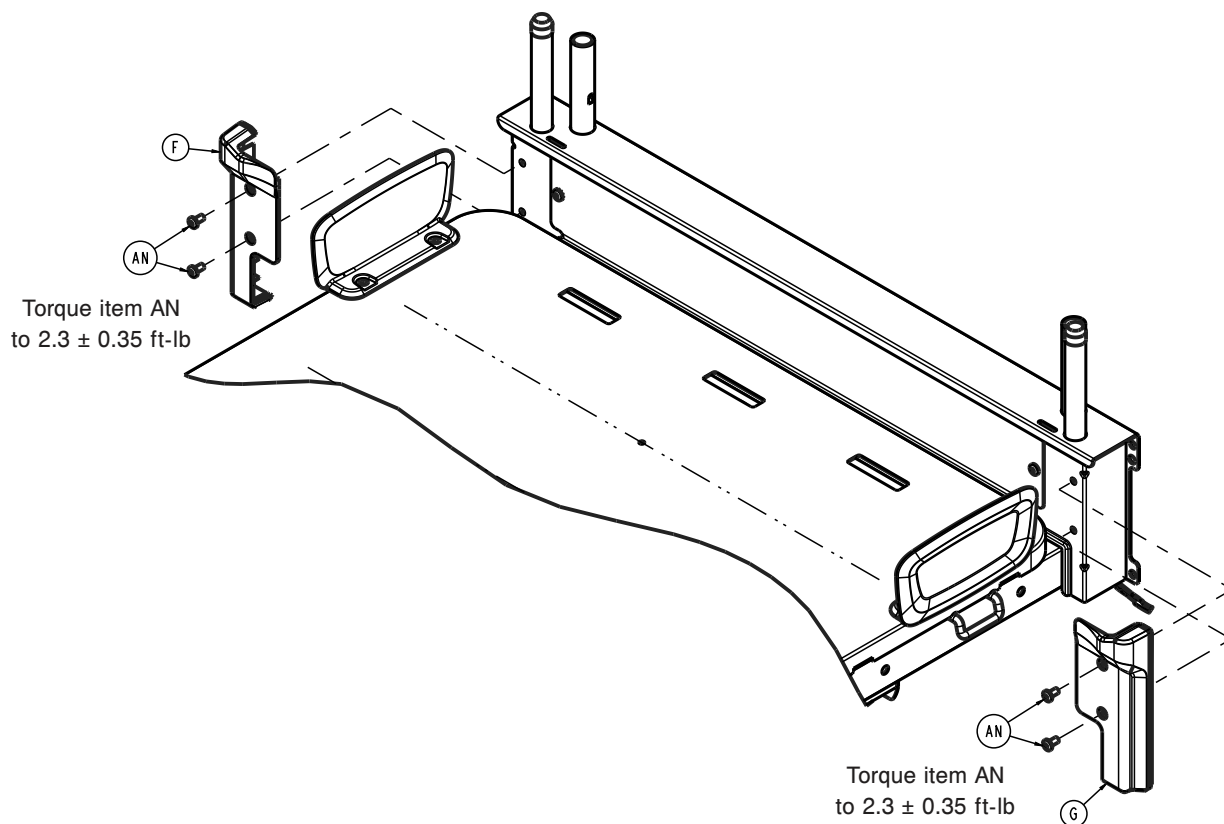

Figure 19 – Removing the cover
- Using a T30 Torx driver, remove the two screws (AN) that secure the front head cover (F, G) (Figure 19). Remove and discard the cover.